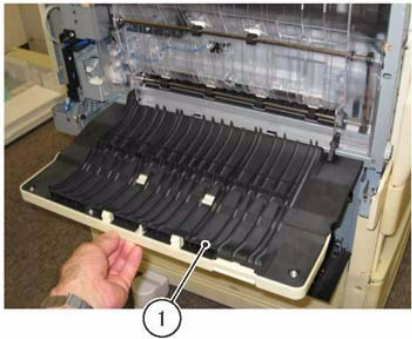

Figure 3 Duplex Cover
6. Remove the Duplex Cover. (Figure 3)